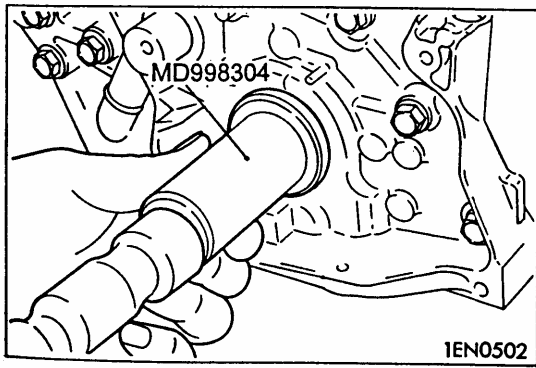

Fig.4-41.
- b Apply engine oil to the oil seal lip, then push the oil seal along the guide by hand until it touches the front case .Tap the oil seal into place using the special tool, see Fig.4-41.